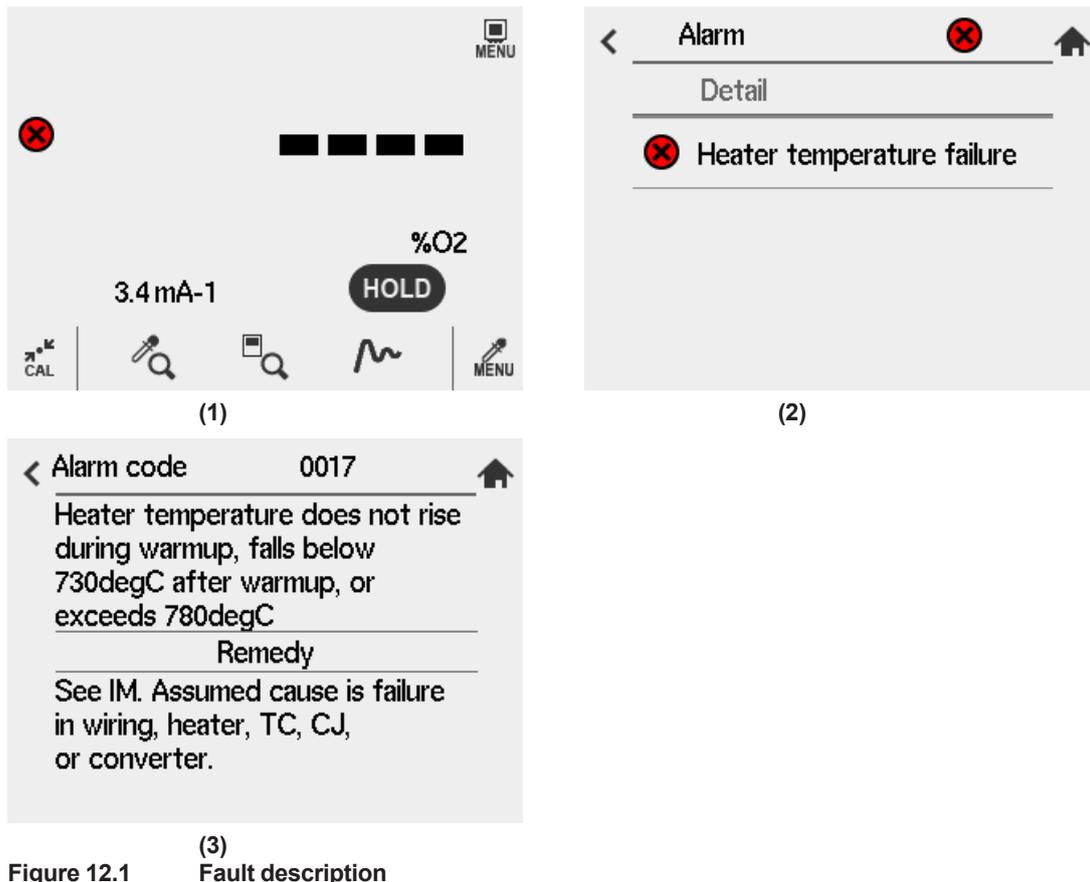

Figure 12.1 Fault description
- (1) Stops the supply of power to the heater in the detector to insure system safety.
- (2) Fault indication is displayed by blinking the icon to notify of a Fault generation (Figure 12.1).
- (3) When Fault is set to output in "Selection of contact output", Fault is output to contact. (refer to Section "8.5 Output Contact Setup".)
- (4) The analog output becomes the status which is set in "Output hold setting". (refer to Section "8.2 Output Hold Setting".)
When the display shown in Figure 12.1 (1) appears, pressing the Fault indication brings up a description of the Fault (Figure 12.1 (2))